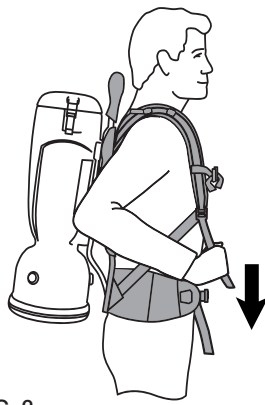

FIG. 2
2. Release the two latches and lift off lid. (Fig. 2)
4. Pull down the shoulder straps to tighten the backpack on your shoulders. (Fig. 2) Do not tighten too tight. The main weight of the vacuum should be on the hip belt. The anchor points of the shoulder straps should ideally be between the shoulder blades. Adjust the VariQuick height adjuster if necessary to properly fit the vacuum to your back length.